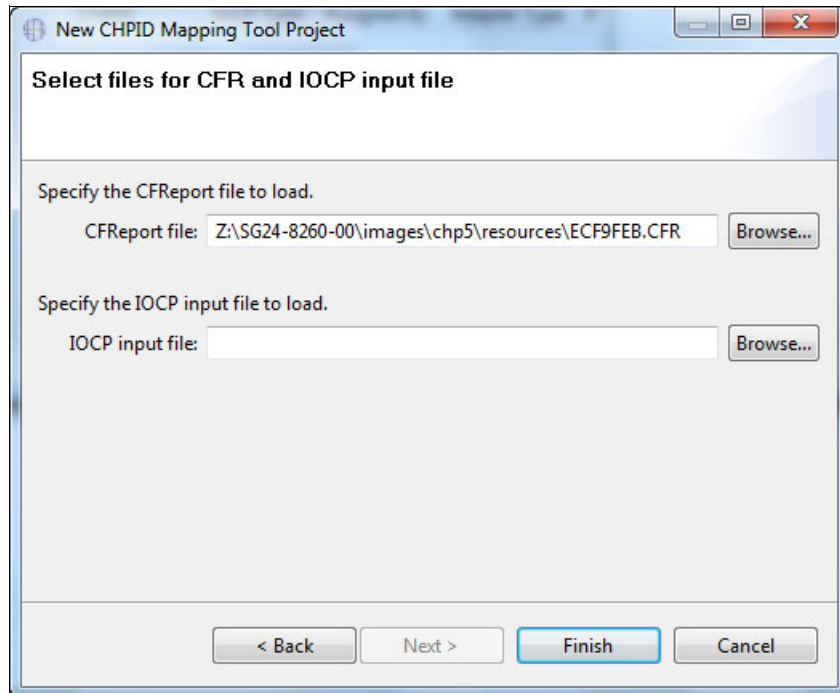

Figure 6-64 CMT - Specifying the CFReport file
4. Import the CFReport file into the CHPID Mapping Tool by specifying the name in the CFReport file field, and then click **Finish** (Figure 6-64).